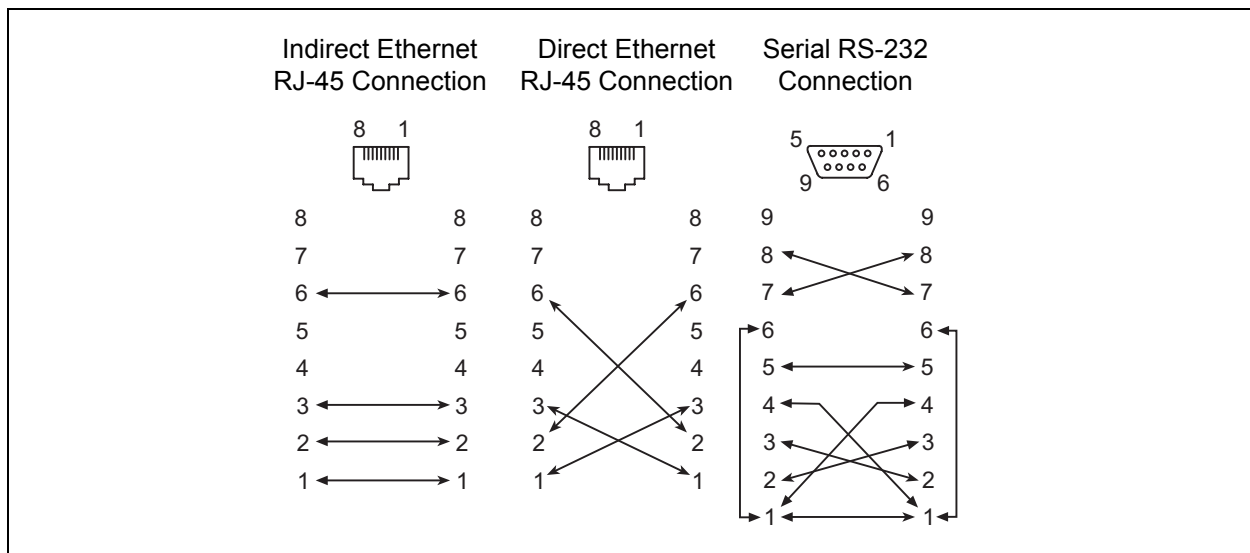

Figure 4-2. Ethernet and Serial Cable Connections
- Indirect Ethernet connection from the management workstation to the switch RJ-45 Ethernet connector through an Ethernet switch or a hub. This requires a 10/100 Base-T straight cable as shown in Figure 4-2. With this method, you can manage the switch with the SANSurfer Switch Manager application or Command Line Interface.
- Direct Ethernet connection from the management workstation to the switch RJ-45 Ethernet connector. This requires a 10/100 Base-T cross-over cable as shown in Figure 4-2. With this method, you can manage the switch with the SANSurfer Switch Manager application or Command Line Interface.
- Serial port connection from the management workstation to the switch RS-232 serial port connector. This requires a null modem F/F DB9 cable as shown in Figure 4-2. With this method, you can manage the switch with Command Line Interface.